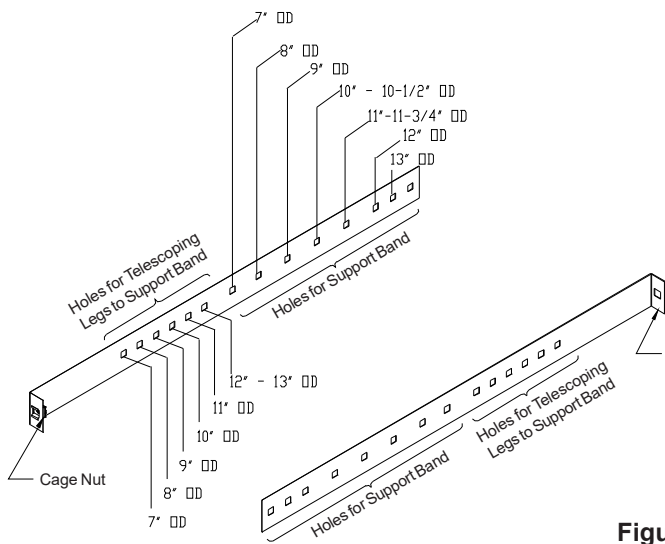

Figure 29
18. Install the first Wall Band (WB) midway up the first Chimney Length above the Insulated Tee and any additional Wall Band to be installed at 8 foot intervals above this point. For systems shorter than 8', at least one WB must be installed. Secure the Wall Band bracket to the wall using 2 6d (2") spiral nails or #8 x 2" wood screws through the pre-drilled holes (see Figure 29). For concrete or brick veneer walls, use suitable masonry fasteners or other anchoring systems.